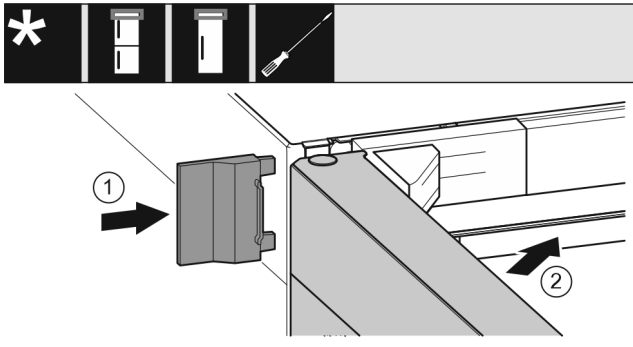

Fig. 23
- ▶ Push the outer cover Fig. 23 (1) on.
- ▶ Close the upper door Fig. 23 (2).